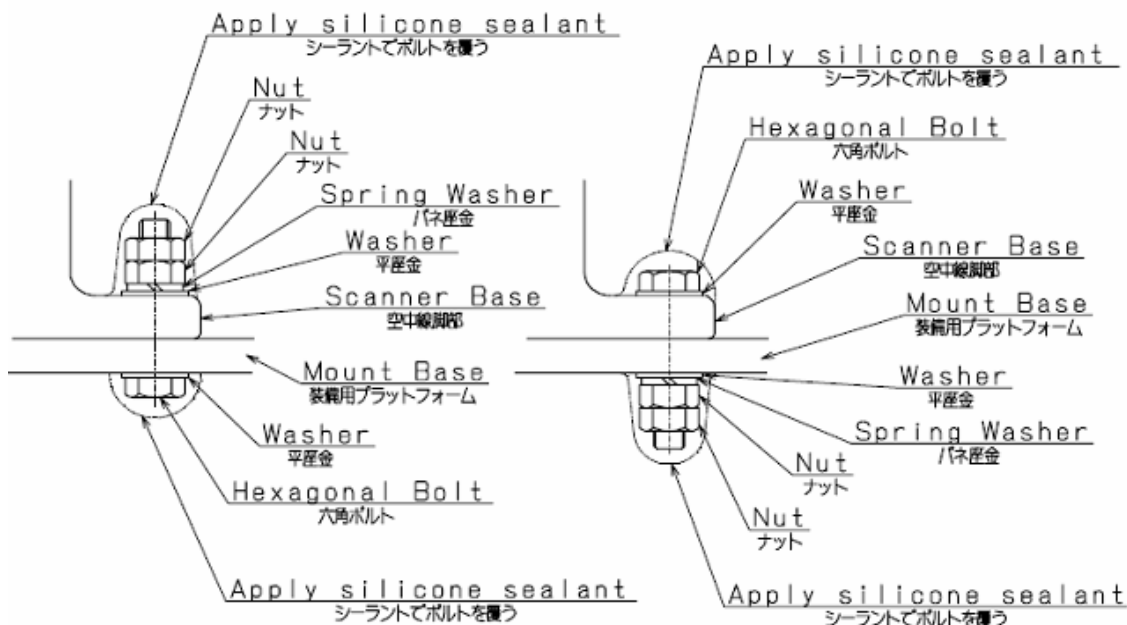

Fig 2-7 Use of washer and corrosion-resistant measures
- At the location where a bolt's head or nut comes in contact with the scanner chassis' legs and the mount base, insert a plain washer which fits the bolt; and, at the location where the nut comes in contact with the plain washer, insert a spring washer, and then securely tighten the nuts (**Fig 2-7 Use of washer and corrosion-resistant measures**).
- To prevent corrosion due to the contacts between different metals, such as the scanner chassis' legs, installation surface, bolts, nuts, etc., cover the bolt's head and nuts with sealant (**Fig 2-7 Use of washer and corrosion-resistant measures**).